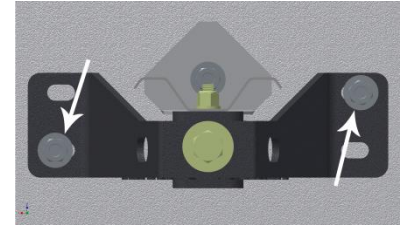

Figure 5
1. Drill two anchor bolt holes 2 1/4" deep in the pad diagonally opposite of each other. (Figure 5)